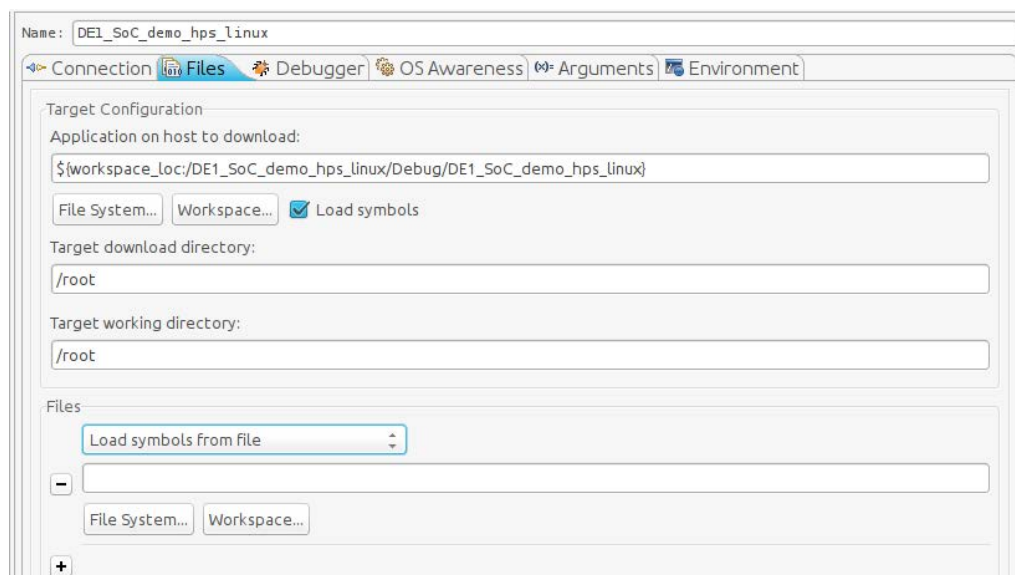

Figure 8-54. Debug Configuration “Files” Tab
- c. Set the “Target working directory” to “/root”. You should have something similar to Figure 8-54.